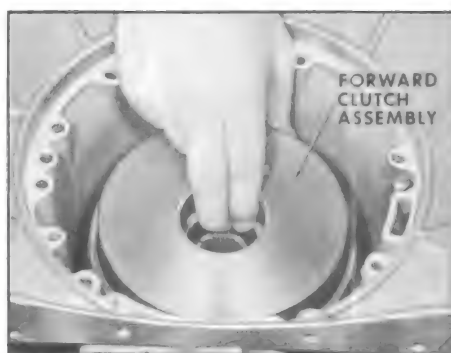

Figure 5-318
1. Install forward clutch assembly turning slightly to engage low sun gear with planet pinions. See Figure 5-318.